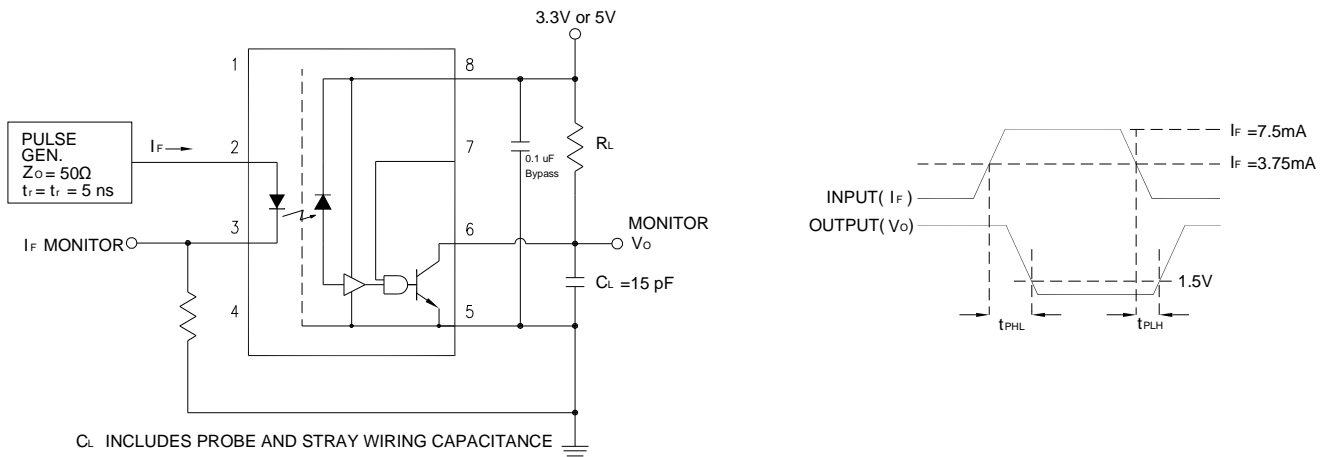

Figure 1: Test Circuit for  $t_{PHL}$  and  $t_{PLH}$
1. A 0.1 $\mu\text{F}$  or bigger bypass capacitor for  $V_{CC}$  is needed as shown in Fig.1